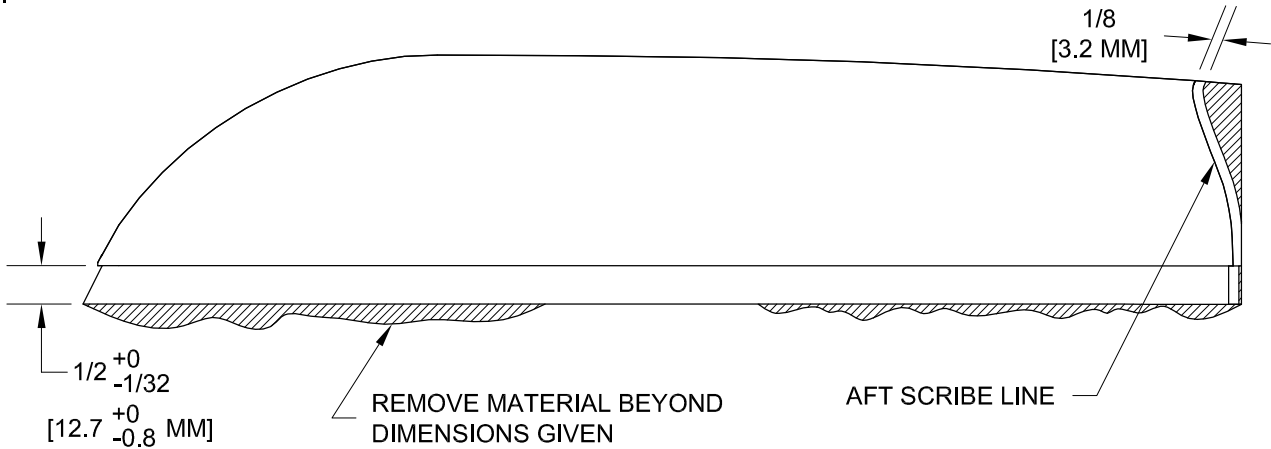

FIGURE 3: VS-1213 V-STAB TIP FAIRING
Step 3: Trim any extra material from the recessed area of the VS-1213 per dimensions given in Figure 3.
Step 4: Trim the VS-1213 near the aft scribe line as shown in Figure 3. Coarse 80 grit sandpaper on a cylindrical object works well for this step.
To resolve interference issues, recheck the recessed area measurement with the dimension given on Page 12iS/U-02, Figure 3. Remove the minimum amount of material necessary within that dimension to achieve a flush fit to the top edge of the VS-1201.